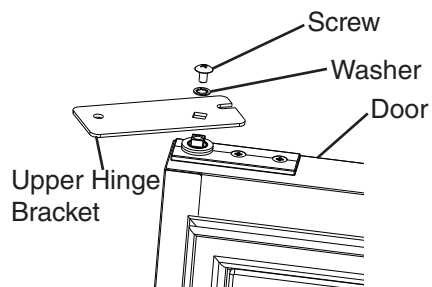

**Fig. 11**
- 7) While preventing the upper hinge bracket from rotating, remove the upper hinge bracket from the spring cartridge. See Fig. 11. Note which side of the upper hinge bracket is facing up.